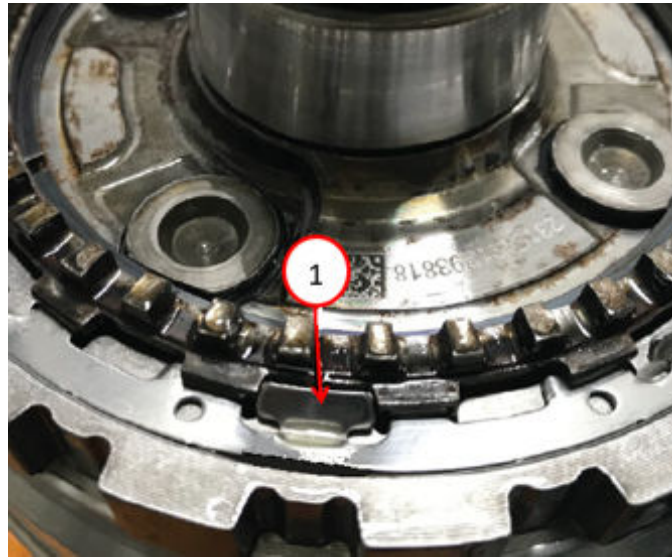

Fig. 26
42. Install the **NEW P4 planetary carrier/output shaft lock ring** from the P4 annulus drum by turning the lock ring to center the lock ring tabs in the output shaft tab openings and gently staking the locking tabs closed Fig. 26.